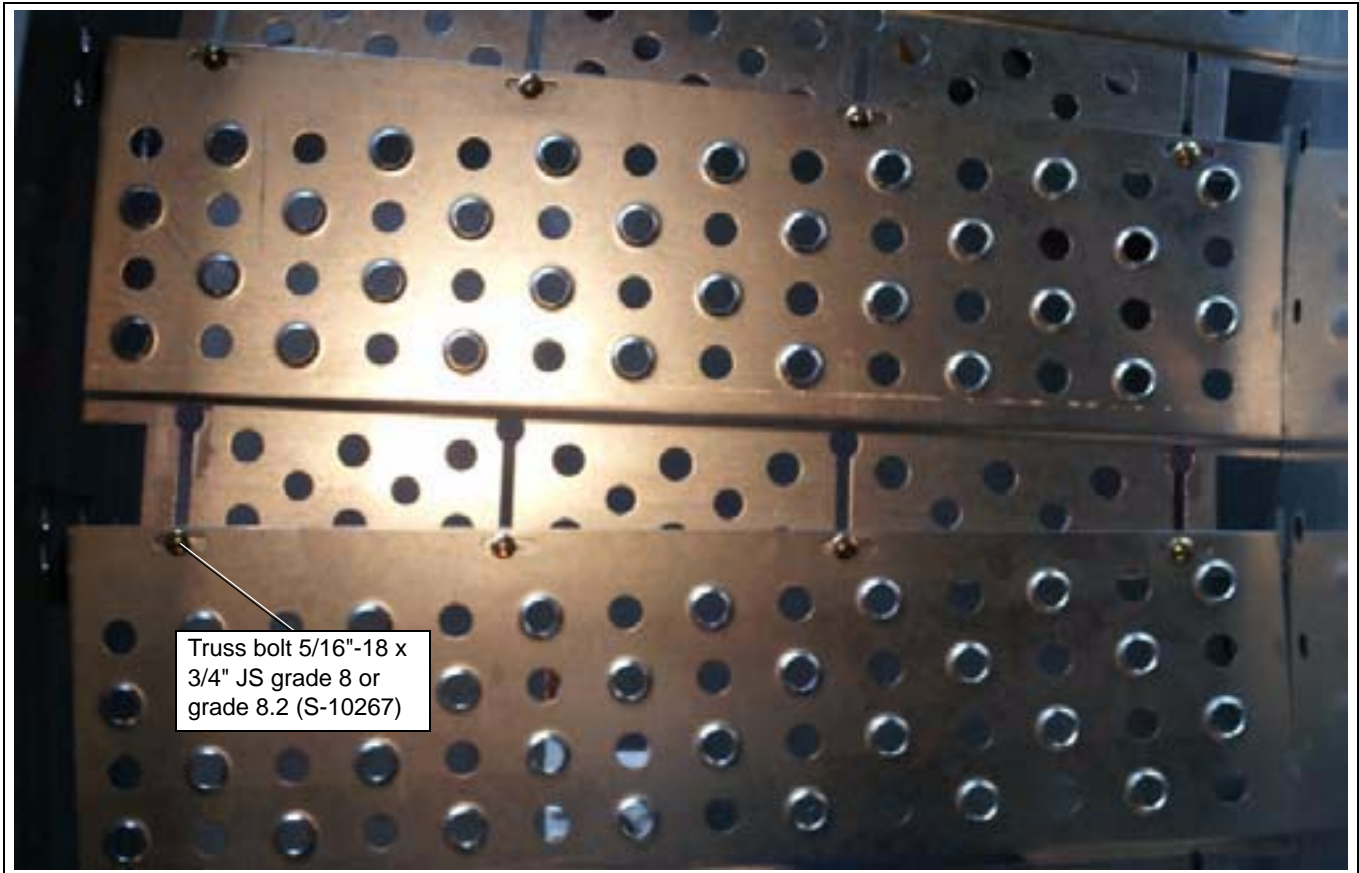

Figure 4N
5. Each plank should be overlapped at the edges and bolted with 5/16"-18 x 3/4" JS grade 8 or grade 8.2 bolts (S-10267) and 5/16"-18 JS grade 5 nuts (S-10268). (See Figure 4N.)